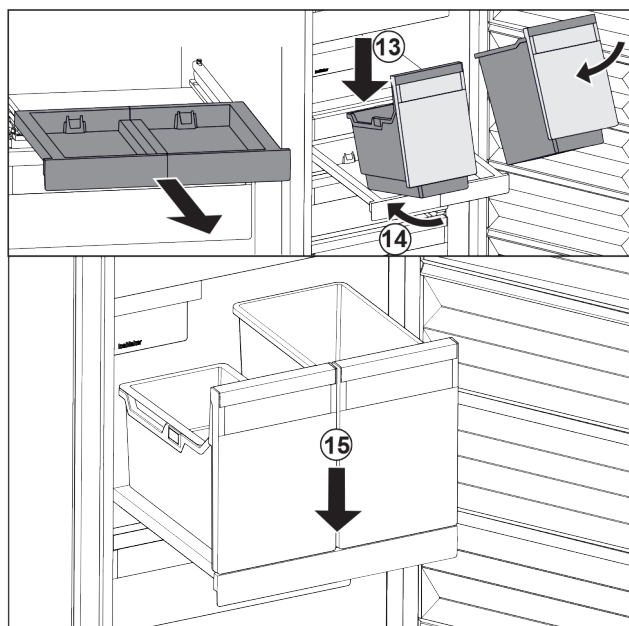

Fig. 106
- ▶ Place the container at an angle on the pull-out board. *Fig. 106 (13)*
- ▶ Slide the container to the back at an angle. *Fig. 106 (14)*
- ▶ Place container in the front. *Fig. 106 (15)*